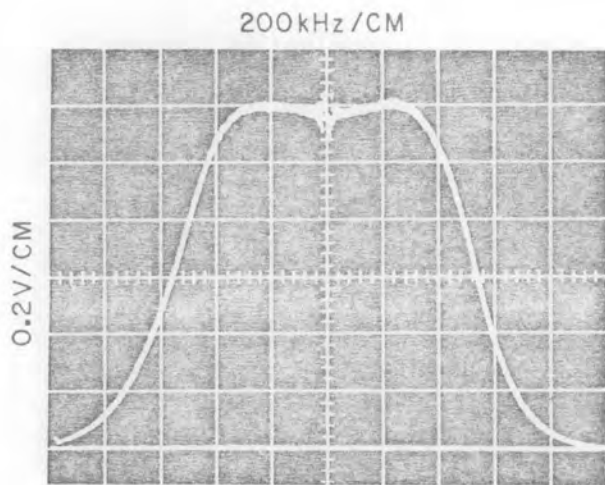

Figure 4-24. Typical 1 MHz IF BW Overall Response Curve
4.7.16 IF Amplifier Overall Alignment Check. - After completion of all sub module alignments, the overall IF Amplifier response should be checked. If a particular response fails to approximate the typical response shown that IF Preselector should be realigned. If all responses appear bad, the IF output amplifier should be realigned. Figures 4-24 through 4-27 illustrates typical overall 1 MHz, 300 kHz, 50 kHz and 10 kHz IF responses. Proceed as follows:
- (2) Place the IF BANDWIDTH switch in the 1 MHz position. Place the tuning mode switch in MAN and turn the RF GAIN control maximum CW.
- (3) Readjust the sweep generator and oscilloscope to display the response curve and 21.4 MHz marker.
- (4) Compare the displayed response to the corresponding response curve, Figures 4-24 through 4-27.